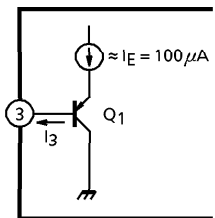

Fig.1
(1) Threshold voltage
Pin ③ is coupled to the base of Q₁ (PNP-Tr) as shown Fig.1.
(3) I_3 (In Fig.1)